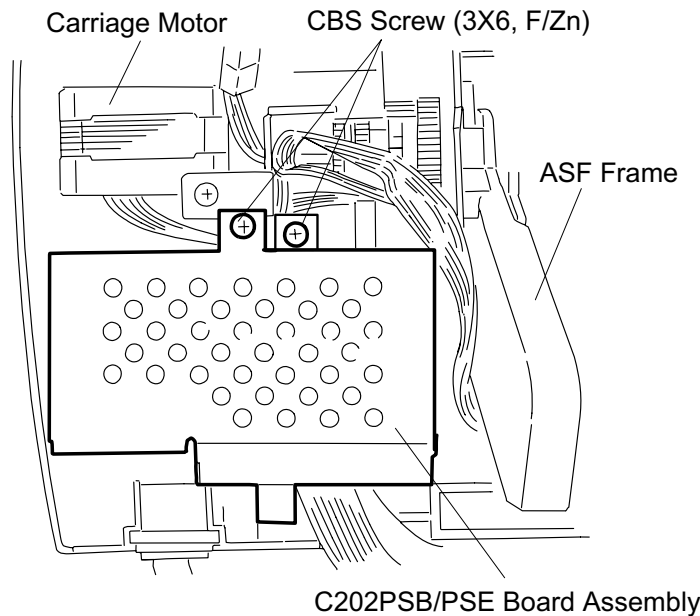

Figure 3-16. C202 PSB/PSE Board Removal
2. Remove 2 screws (CBS, 3x6, F/Zn) securing the C202 PSB/PSE board assembly to the printer mechanism. (See Figure 3-16.)